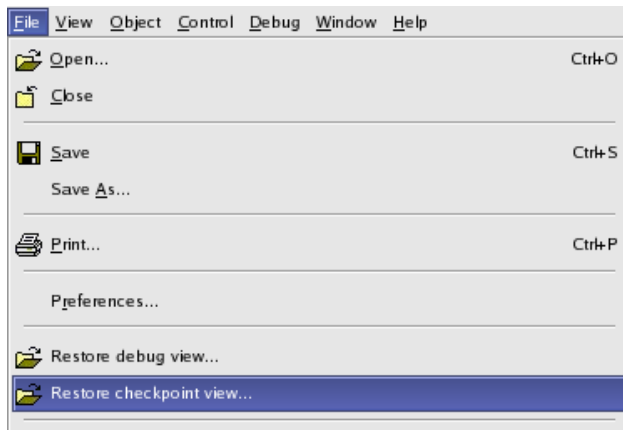

Figure 4-19 Restore Checkpoint View menu selection
2. Before starting the simulation, select **File > Restore checkpoint view** (Figure 4-19)